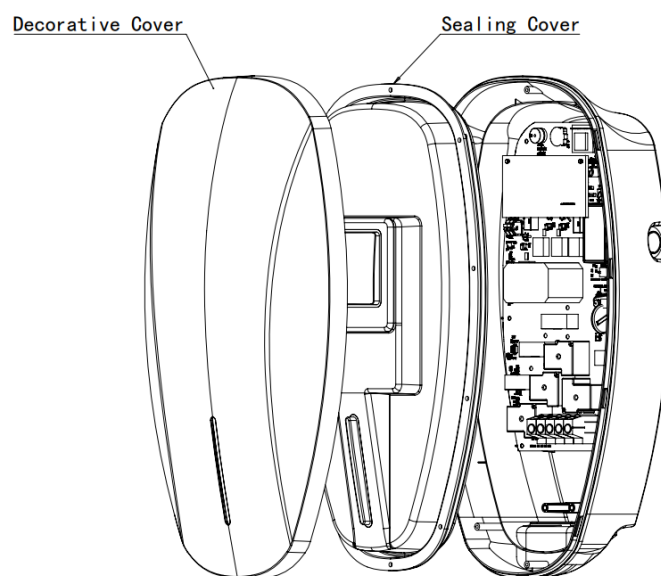

Figure 4.3 Removing Covers of the Charger
- 4) Use appropriate tools (for example, slotted and Phillips screwdrivers) to remove the decorative cover and the sealing cover of the charger, as depicted in **Figure 4.3**.